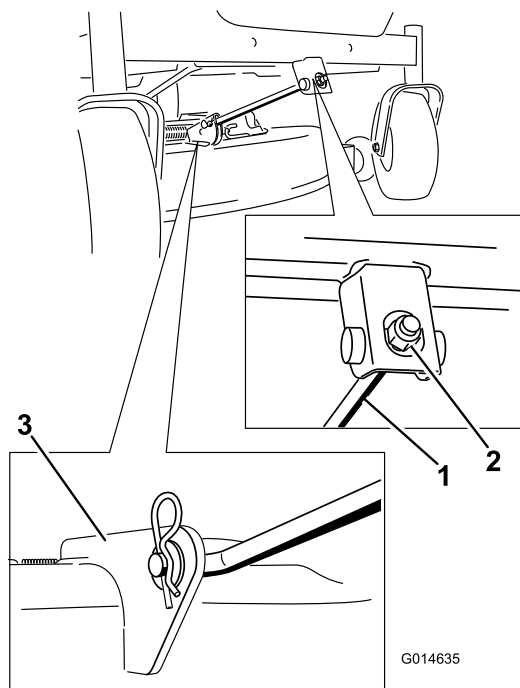

Figure 70
5. Remove the hairpin-cotter pin from the front support rod, and remove the rod from the deck bracket (Figure 70).
6. Attach the front support rod to the mower deck with the clevis pin and hairpin-cotter pin (Figure 70).